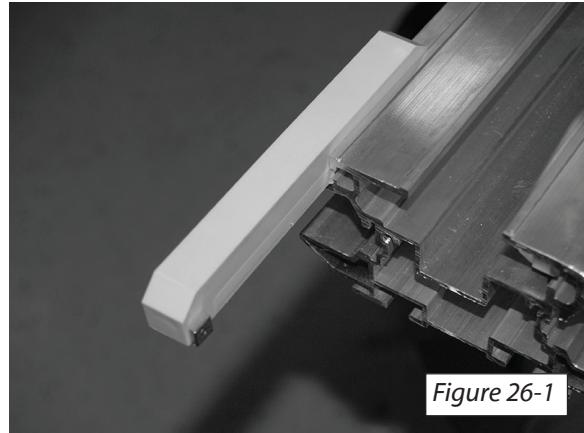

Figure 26-1
2. Insert the upper limit cam into the end of the rail. [Figure 26-1 and 26-2]